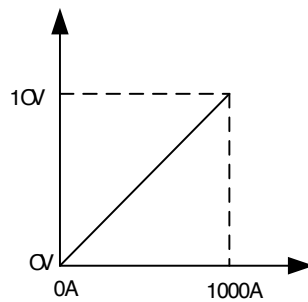

Figure 5-21 Corresponding relation of real-time current feedback
1. Corresponding relation of real-time current feedback is shown in Figure 5-21.